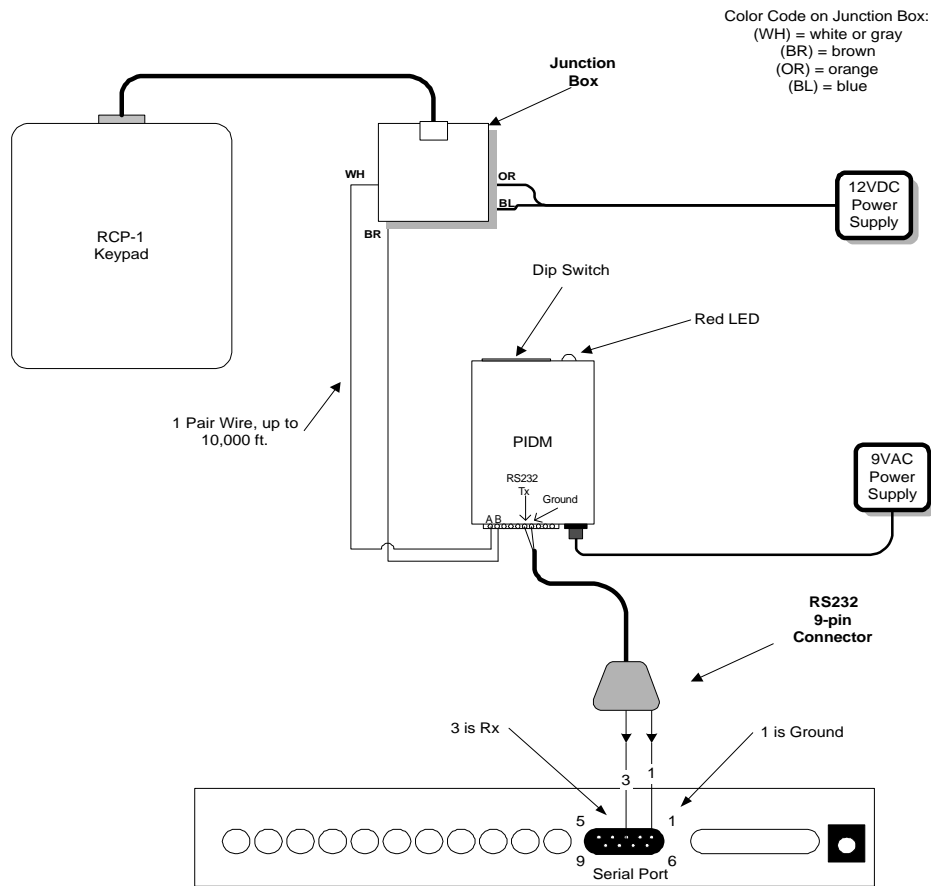

Figure 5
Follow these steps to ensure proper connection and set up of your RCP1 with the standard configuration using the **QSP-860MPX**, **QSP-860SPX**, **MX4m**, & **SX4m**. Figure 5 below shows the overall connection configuration of the RCP1 with your multiplexer.
1. Connect the RCP1 keypad to the junction box with RJ-45 cable as shown in Figure 5.